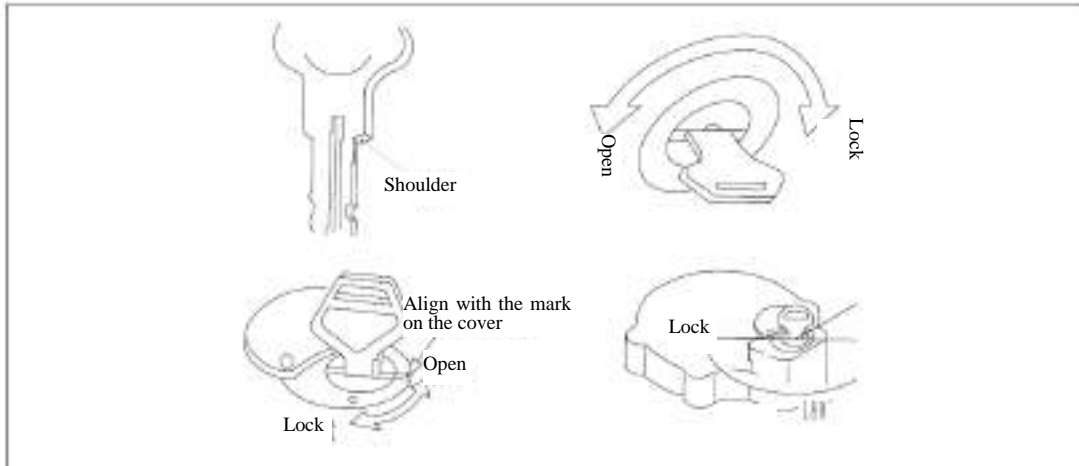

Figure 3-98 Open or lock the caps and covers with locks
- 2). Turn the key clockwise as shown in Figure 3-98 and then remove the key.